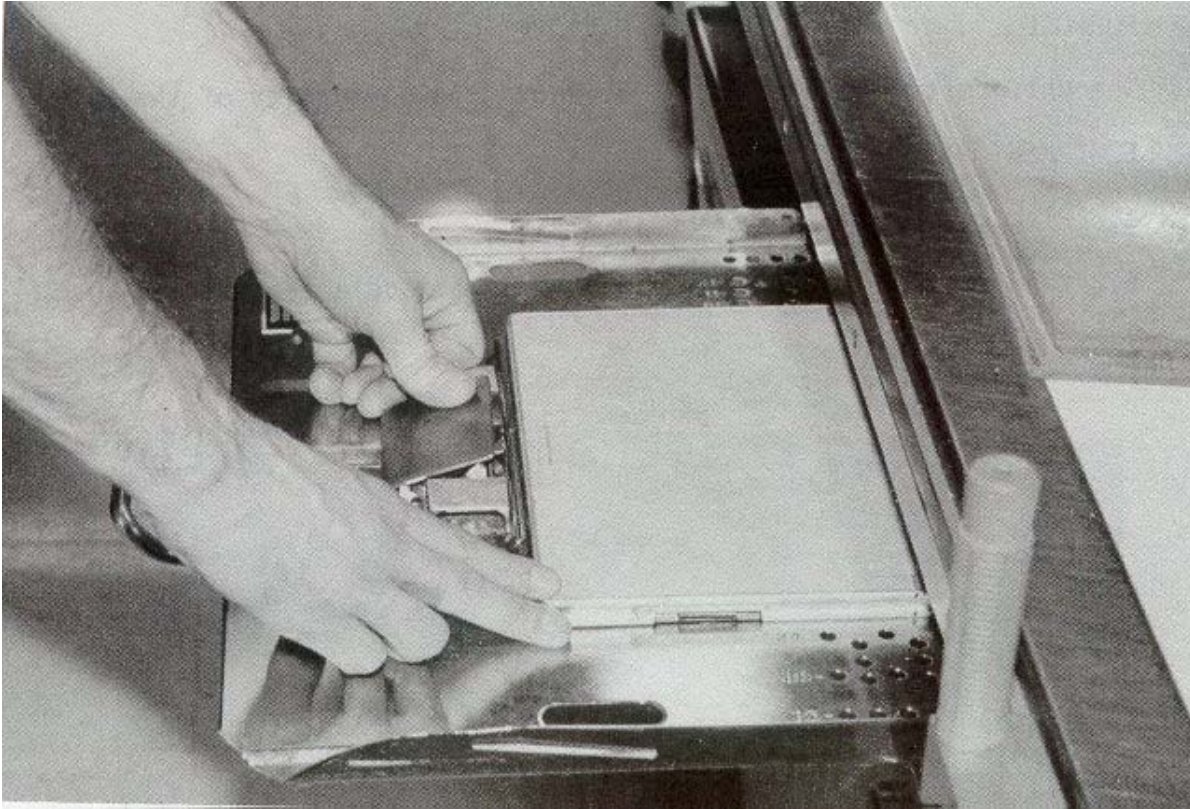

Figure 6-5. Position an 8- x 10-inch cassette in the Bucky tray.
- b. Position an 8- x 10-inch cassette in the Bucky tray (see figure 6-5).